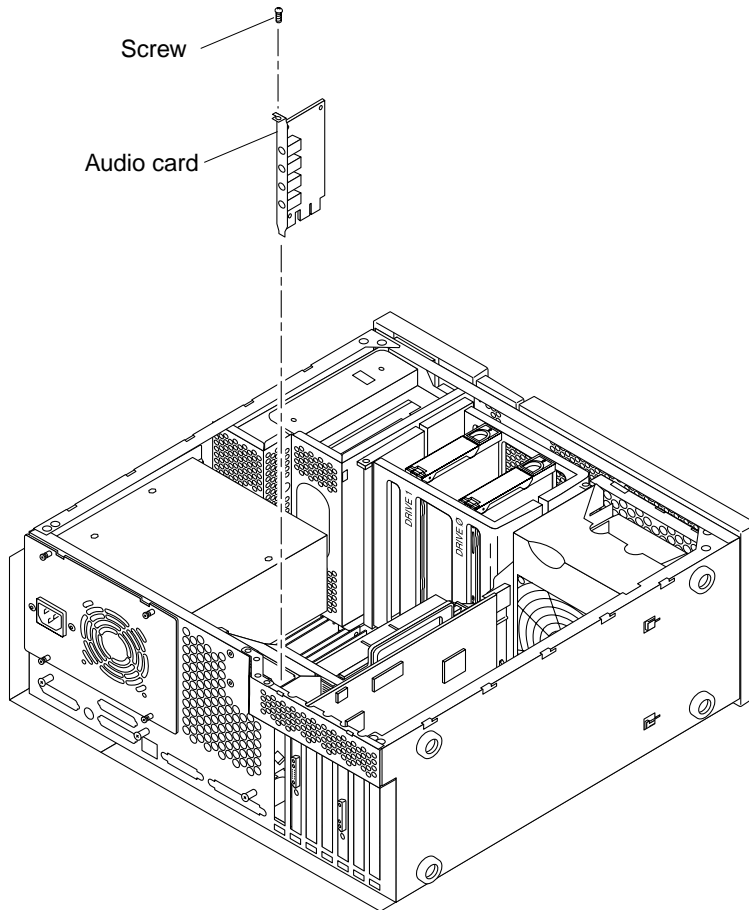

FIGURE 10-7 Removing and Replacing the Audio Card
5. Remove the audio card as follows (FIGURE 10-7):
1. Replace the audio module as follows (FIGURE 10-7):